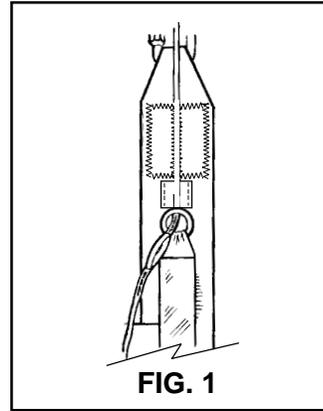

FIG. 1
4. Set the deployment brakes on each side by pulling the control line down through the guide ring until the brake loop just passes through the guide ring (**FIG. 1**).